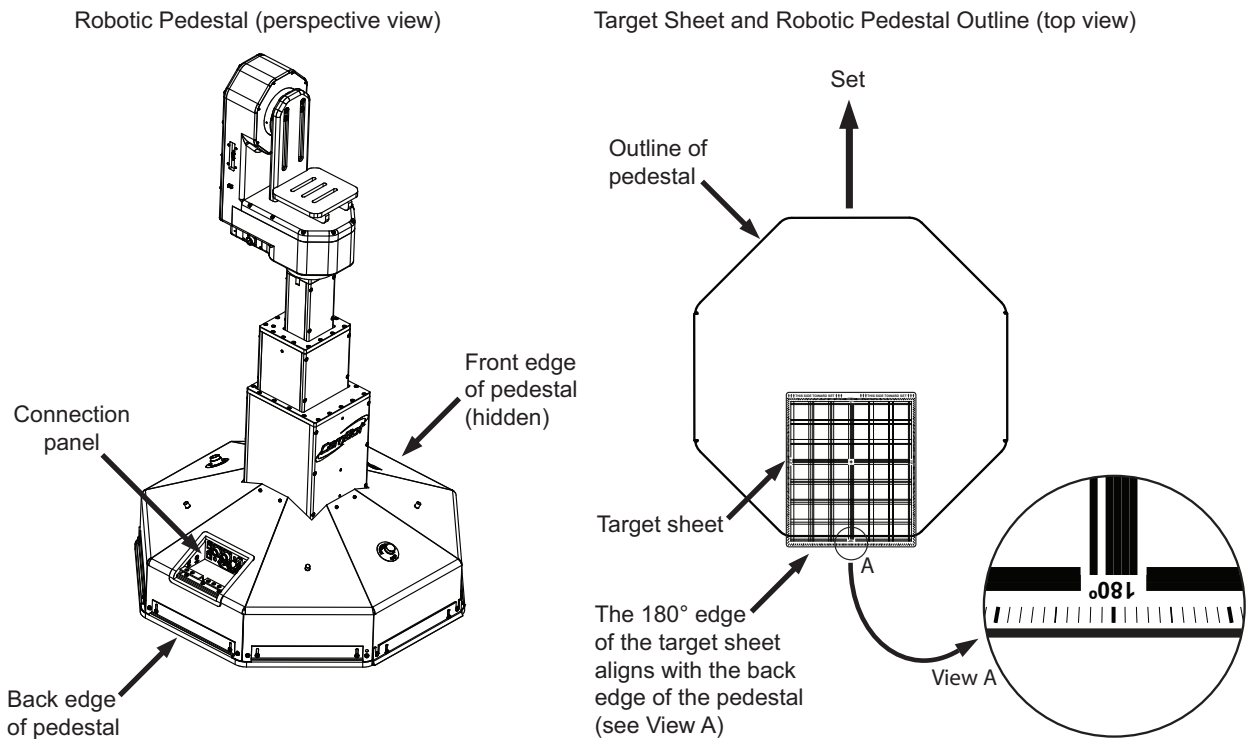

Figure 111 - Positioning a Robotic Pedestal Over the Target Sheet
- Use the joystick panel to position the pedestal over the target sheet such that the back edge of the pedestal (connection panel) is aligned with the **180°** edge of the target sheet (Figure 111).
- Use the local control box to position the pedestal over the target sheet such that the back edge of the pedestal is aligned with the **180°** edge of the target sheet (Figure 111). Ensure the control switch is set to **REMOTE** before you continue.